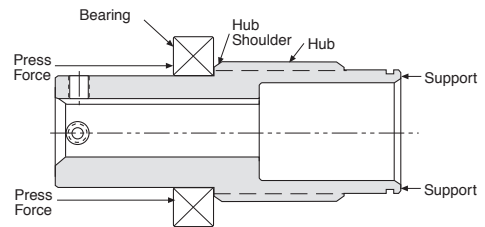

Figure 41
16. Install the inner adapter bearing (Item 5) onto the hub, (Item 7) **by pressing on the inner race of the bearing.** With the end of the hub supported as shown in Figure 41, press the bearing until its inner race locates against the hub shoulder.